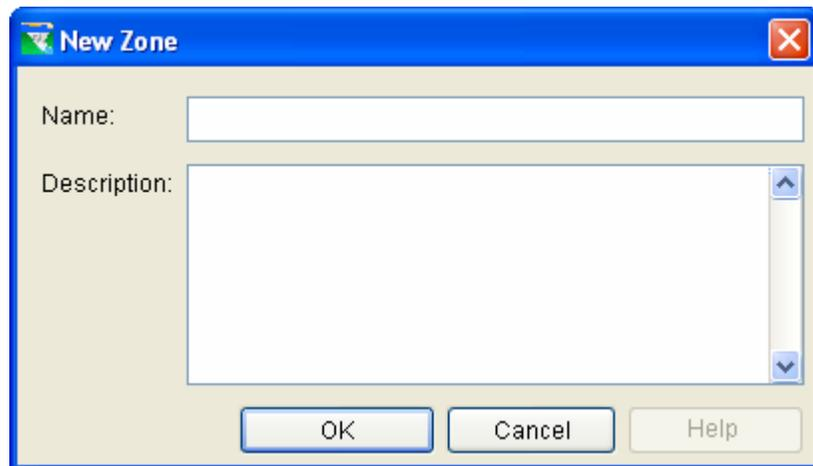

Figure 12.18 New Storage Zone
1. Select **New** from the **Zones** menu of the **Reservoir System Editor**. The **New Storage Zone** dialog box will open (Figure 12.18)